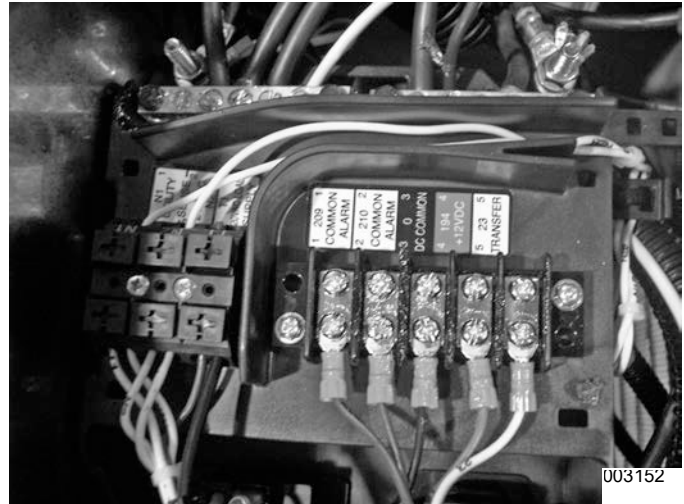

Figure 4-53.
21. **Remove Controls Cover:** See Figure 4-53. Use a Torx T-27 socket or 5/32" Hex Allen socket to remove two bolts and ground washer from the controls cover. Remove the controls cover.
22. **Remove Stator Wires:** See Figure 4-53. Remove all connectors from the controller, remove all wires the common neutral and ground wires from landing lugs, and remove wires from main breakers.